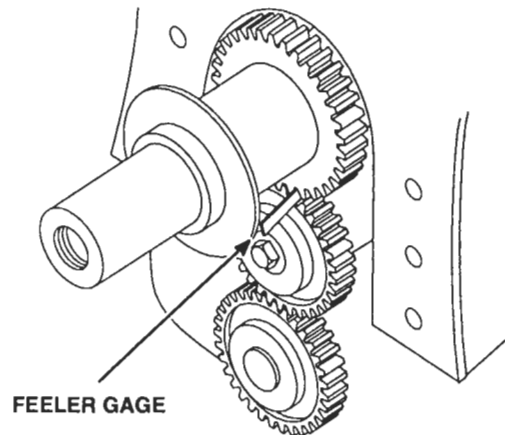

Figure 9. Measuring the Clearance Between the Oil Pump Drive Gear Teeth
2. Insert the four bolts with lock washers through the mounting feet of the pump and into the bearing caps. Align the pump so that the teeth of crankshaft gear and the idler gear are parallel, then tighten the bolts to 35–39 lb-ft (47–53 N·m) torque. Check clearance between the gear teeth with a feeler gage. Proper clearance between the crankshaft gear and idler gear is .005 inch minimum, .012 inch maximum (Figure 9.)